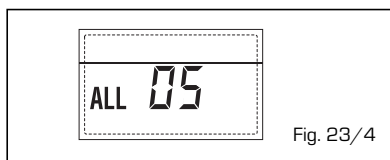

Fig. 23/4
**- BLOCCO FIAMMA "ALL 06" (fig. 23/5)**